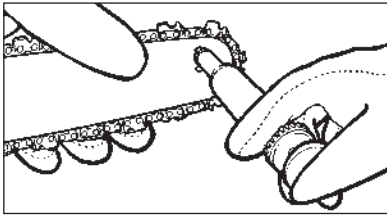

Fig. 20
- Using the Lube Gun (optional), insert needle nose into the lubrication hole and inject grease until it appears at outside edge of sprocket tip (Fig. 20).